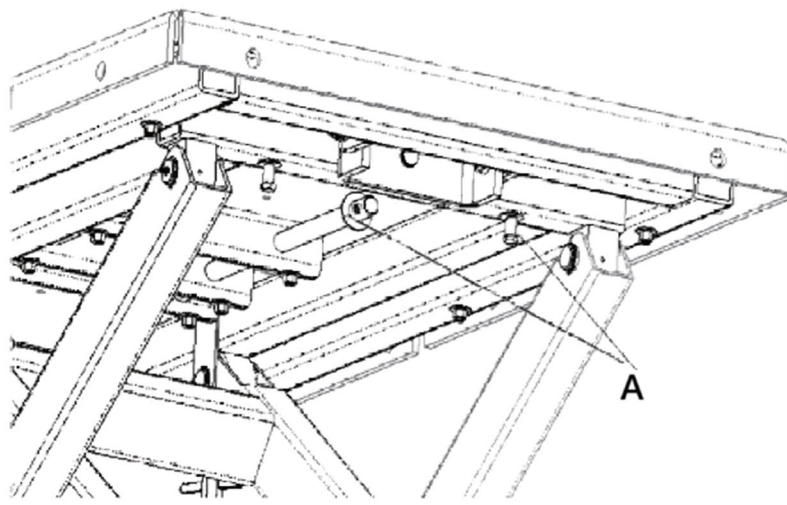

Figure 1
- Refer to Figure 1 in the below "Device use" section for guidance.
The forcing screws (see Figure 1) allow for precise tilting of the platform, aiding in the installation or removal of vehicle components. This feature provides up to two inches of tilt at the front of the platform, helping to compensate for uneven shop floors or difficult fastener locations.
If the lift is to be used as a stationary work surface for servicing components, it is equipped with two leveler screws (see Figure 1) to help stabilize the platform.